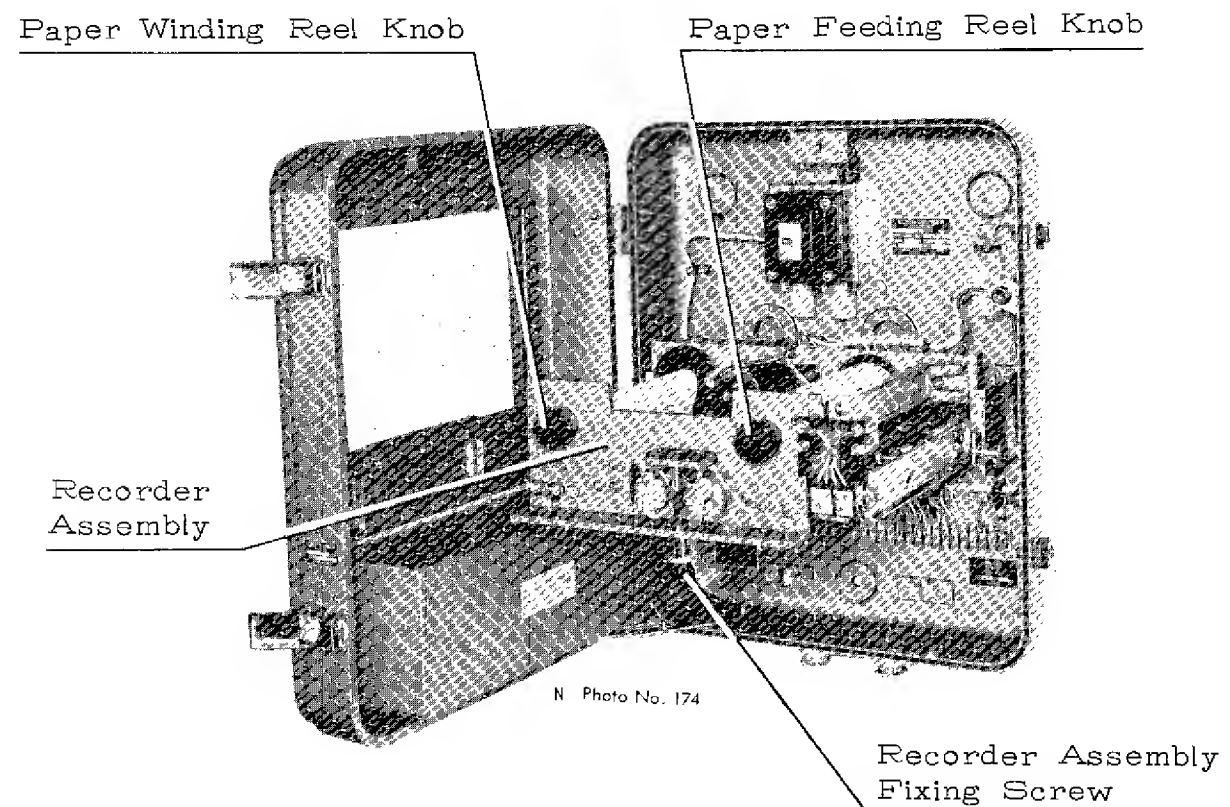
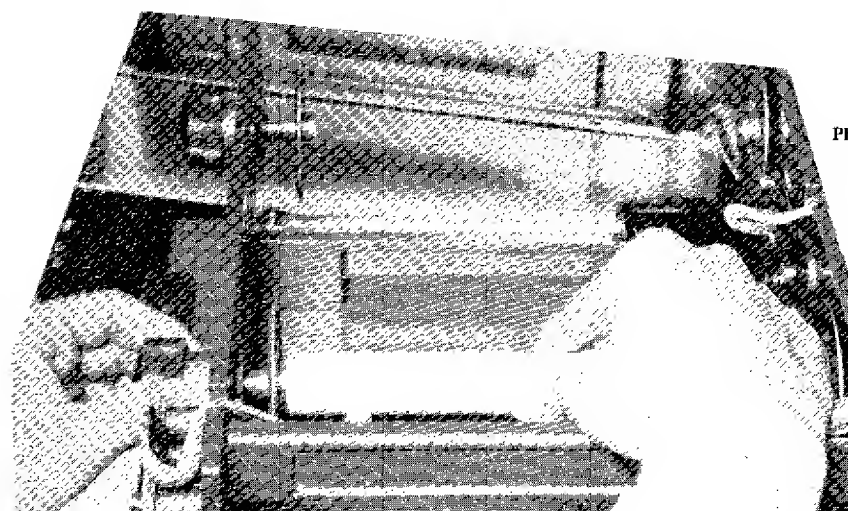

Fig.2-4 Recorder with Recorder Assembly swung down
Fig.2-6
5. Loosen the recorder assembly fixing screw and swing down the recorder assembly by holding the fixing screw. See Fig.2-4.
6. Take out the paper winding reel with used paper at the same time pulling the paper winding reel knob to the outside (ref. Fig.2-4 and 2-5), and wind out the remaining part of the paper, also remove the empty paper feeding reel in the same manner(ref. Fig.2-6).